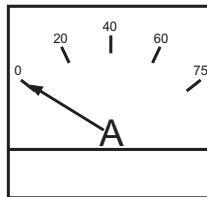

Figure 25. Ammeter (No Load)
14. The ammeter (Figure 25) will indicate zero amps with no load applied. When a load is applied, this meter will indicate the amount of current that the load is drawing from the generator's alternator.